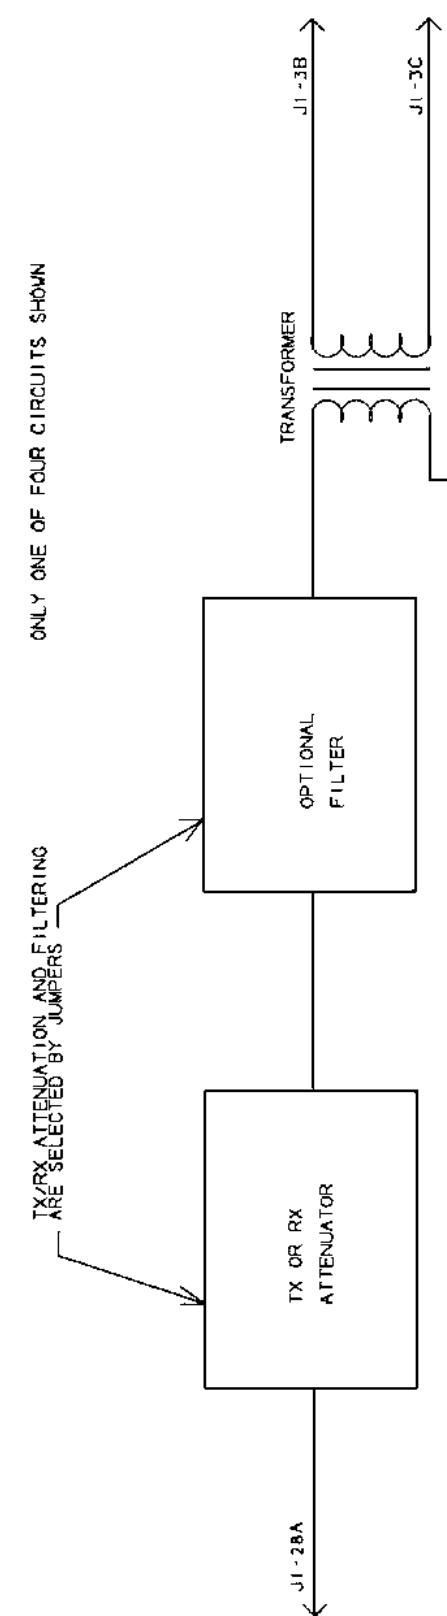

Figure 1 - Block Diagram
Each interface board contains four (4) identical circuits. These circuits can be configured independently as either a receiver or a transmitter. A transit filter can be selected, if necessary, to remove any out of band signals. There is also a programmable attenuator to reduce the maximum power to line, if necessary. (Refer to the Block Diagram shown in Figure 1). The interface requires 13.89 Vdc and each board draws about 20 mA.